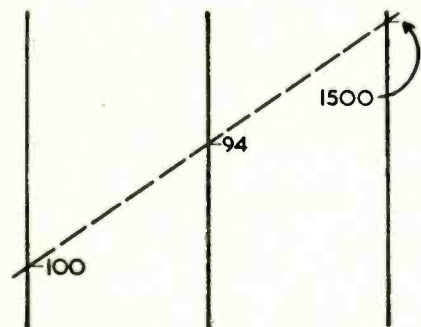

Fig. 3—Use of the right-hand scales.
**Example 2:** Fig. 3 illustrates a case requiring use of the right-hand reference scales. The resistors to be connected in parallel have values of 1,000 and 15,000 ohms. For the lower of these values, 1,000, the lowest reference position on the outer reference lines is on the right-hand side, where it can be represented by the figure 100. This means the scale units will be ohms divided by 10, so that the numerals on the right-hand side of the reference lines that represent 1,000 and 15,000 will be 100 and 1,500. Aligning these, the right-hand side of the center reference line reads 94, indicating that the total resistance is 940 ohms.